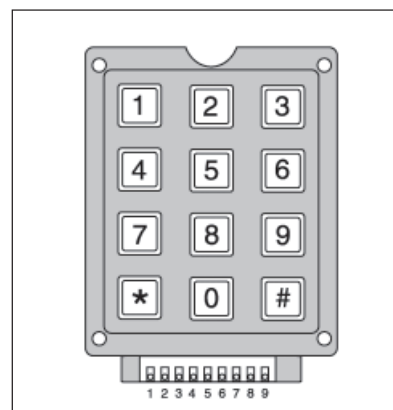
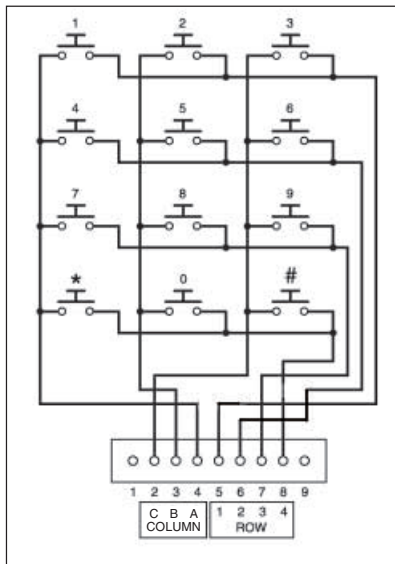

Fig.9.17. A common type of matrixed keypad.
Fig.9.18. Arrangement of the switches in a matrixed keypad.
Matrixed keypads are readily available, and a common type is shown in Fig.9.17, with its internal connections illustrated in Fig.9.18. Notice how the switches in Fig.9.18 are arranged in three columns and four rows. Hence, if you press key 1, column A will be connected to row 1. Pressing key 2 will connect column B to row 1, and pressing key 9 will connect column C to row 3, etc. So each key when pressed will connect a unique combination of columns and rows. Your electronic circuit will need
Note, however, that there is no agreement about the labelling of rows and columns between different makes of keypad, and the arrangement of pins is often misprinted in catalogues. The information provided in Fig.9.18 is correct for all the keypads which have the same appearance as the one illustrated. Note that pin 1 is not used, nor is pin 9 if fitted.
The keypad is shown with seven connections, with the columns labelled A, B, C, and the rows labelled 1 to 4. This labelling will enable any keypad to be used, regardless of its pinout arrangement, providing the constructor has data for the arrangement of rows and columns within the pinout. You could of course use separate buttons, connected as shown in Fig.9.18.